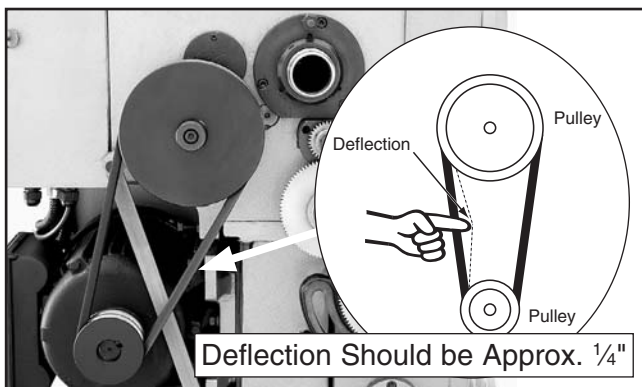

Figure 74. Checking V-belt deflection.
3. Push the center of the V-belts (the mid-point between the pulleys) with moderate pressure to check the belt deflection, as shown in **Figure 74**.